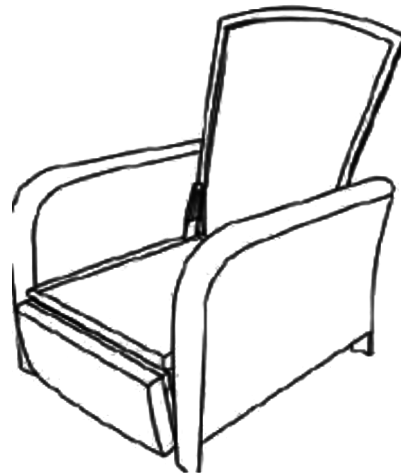

Figure 2
Step 2. Lower back (B) onto the chair body (A) insuring that the locking brackets on the chair back (B) and the chair body (A) are completely engaged. To check that the chair back(B) is properly installed, stand behind the chair and pull up on chair back (B). If one or both locking brackets move out of position they are not properly engaged. Remove chair back and repeat steps 1 and 2. See figure 2.
(Figure 2)